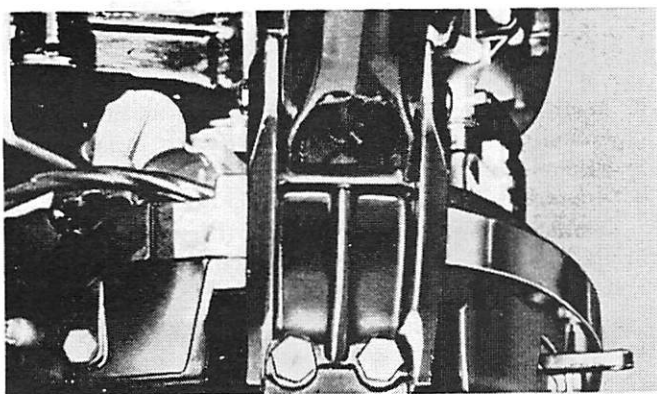

Figure 9. Steering Arm Bracket Attached
8. Fasten steering arm to steering arm bracket on engine with 2 cap screws which were removed previously. Tighten screws securely. (Figure 9)